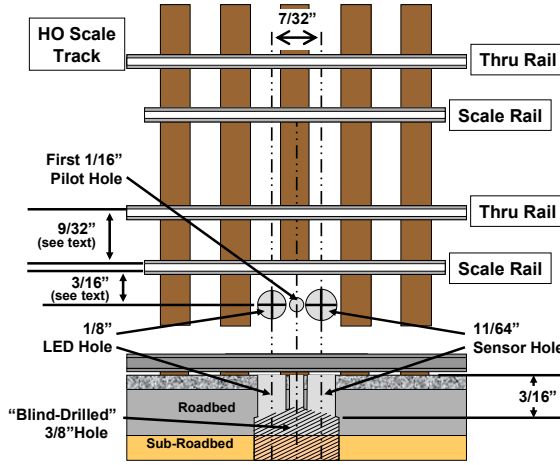

Figure 3: Detector Installation for Gantlet Track
b. If you are installing as an HO gantlet track, install the Detector as shown in Figure 3, following the steps in the Detector instructions.